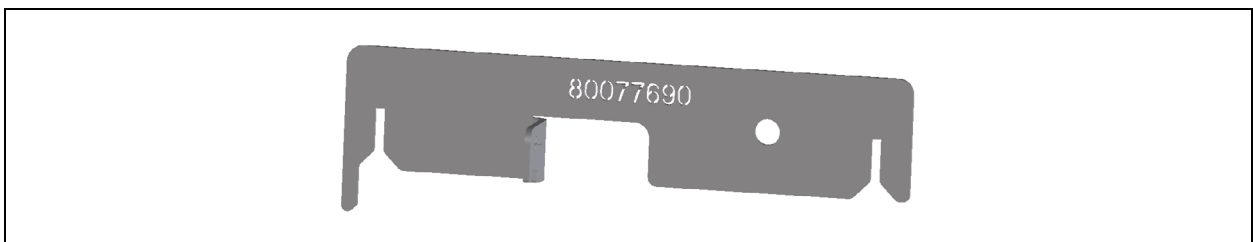

Fig. 30 - Adjustment template for the MultiDrum™
**Adjustment template for the MultiDrum™, see fig. 30.**